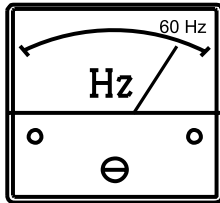

Figure 31. Frequency Meter
8. The generator's frequency meter (Figure 31) should be displaying the 60 cycle output frequency in **HERTZ**.